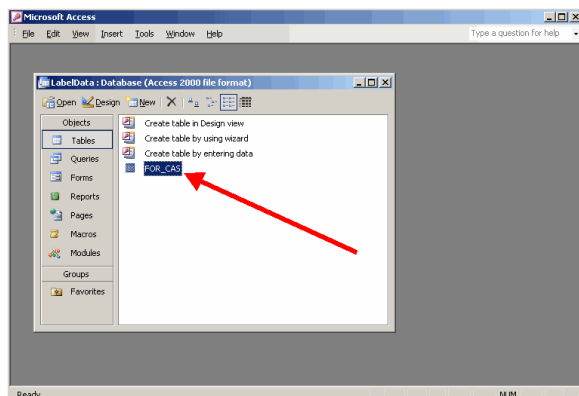
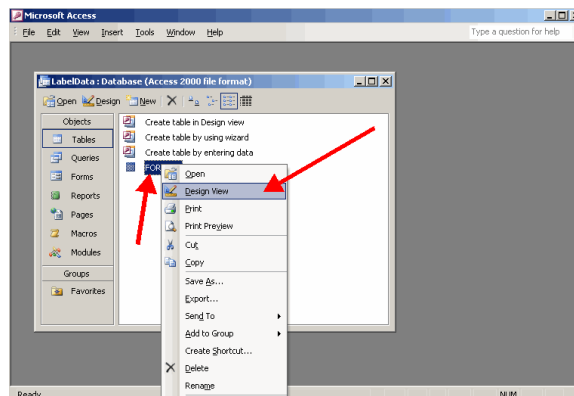

Figure 38a
Figure 38b
44. Right click on the first table you imported in Steps 41 -43, (Figure 38a) and choose Design View from the menu. (Figure 38b)